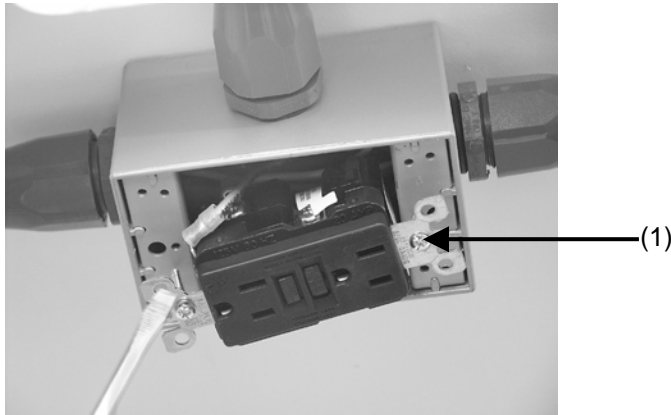

Figure 4-45. Duplex receptacle.
3. Loosen captive screws (1) and move duplex receptacle away from outlet boxes as far as they will go (Fig. 4-45).